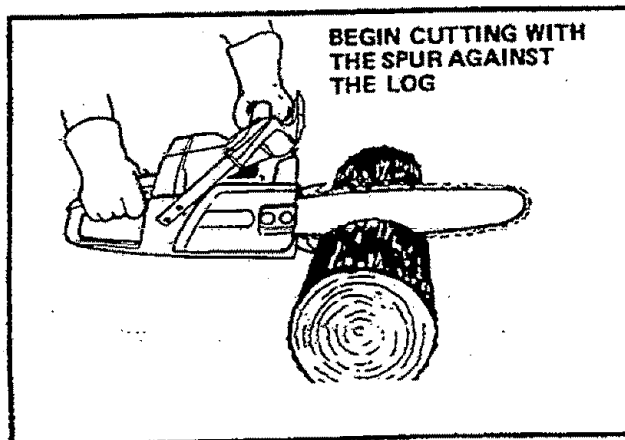

Figure 16
- Begin cutting with the spur against the wood. Figure 16.